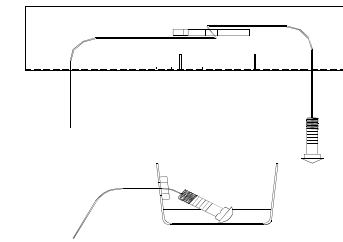

Figure 2 Fishwire Technique
- Lower exhaust by removing the (2) 8mm bolts from the hanger bracket on both sides of the vehicle.
- Fishwire the 7/16" carriage bolts and spacers through the enlarged access hole and out the two side mounting holes in the frame rail, leave fishwires attached. See Figure 2.
- Sandwich (4) .25" x 1" x 1.5" spacers between hanger bracket and frame rail on both sides, and reattach the hanger bracket with the M8 bolts in fastener kit. Make sure the holes on hanger bracket and spacers line up for the bolt to go through.